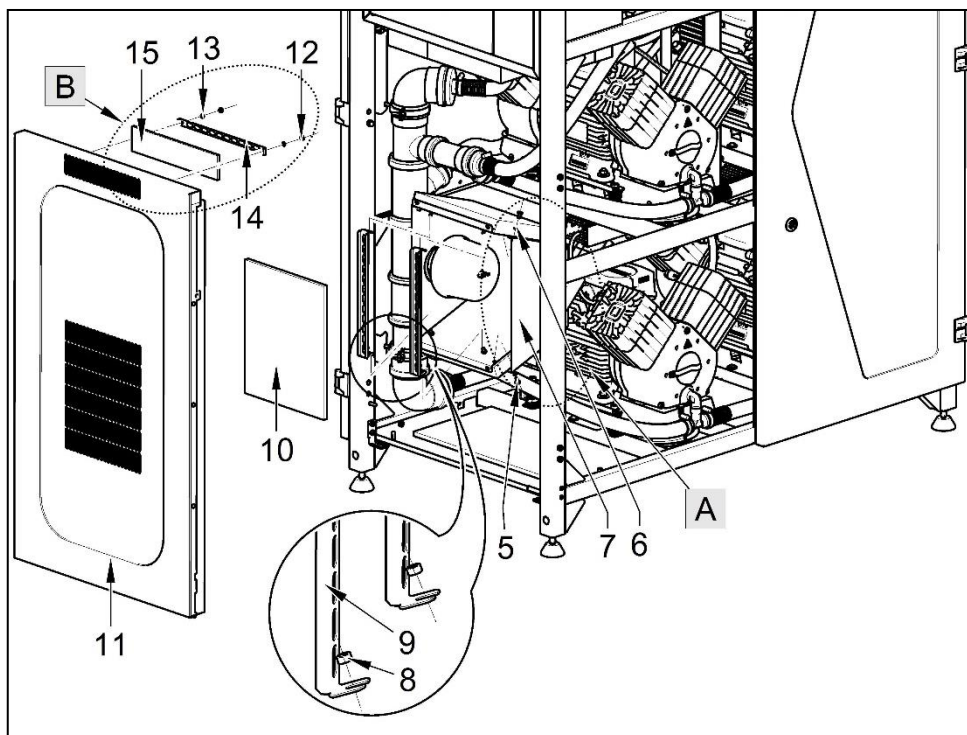

Fig. 21
- Remove the nuts (1) and covers (4) on the lower part of the enclosure beneath the aggregates two times and remove the filters (5).
- Remove the nuts (1) and covers (2) inside the enclosure three times and remove the filters (3).
- In Point A, remove the foam, remove the 4 screws (5), washers (6) and remove the suction filter cover (7) – (Fig. 21).
- Remove the 2 nuts (8) on the filter
- bracket (9) and remove the filter (10).
- In Point B (on the sides (11)), remove the 2 nuts (12), washers (13), release the filter bracket (14) and remove the filter (15).